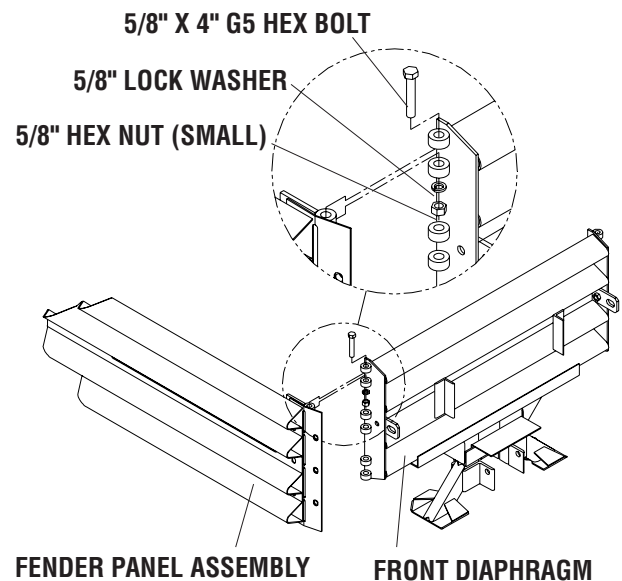

Figure 72
- Step 3. (Figure 72) Bolt fender panel assembly to diaphragm with 5/8" x 4" hex bolts, 5/8" nuts and 5/8" lock washers 3 places each side.